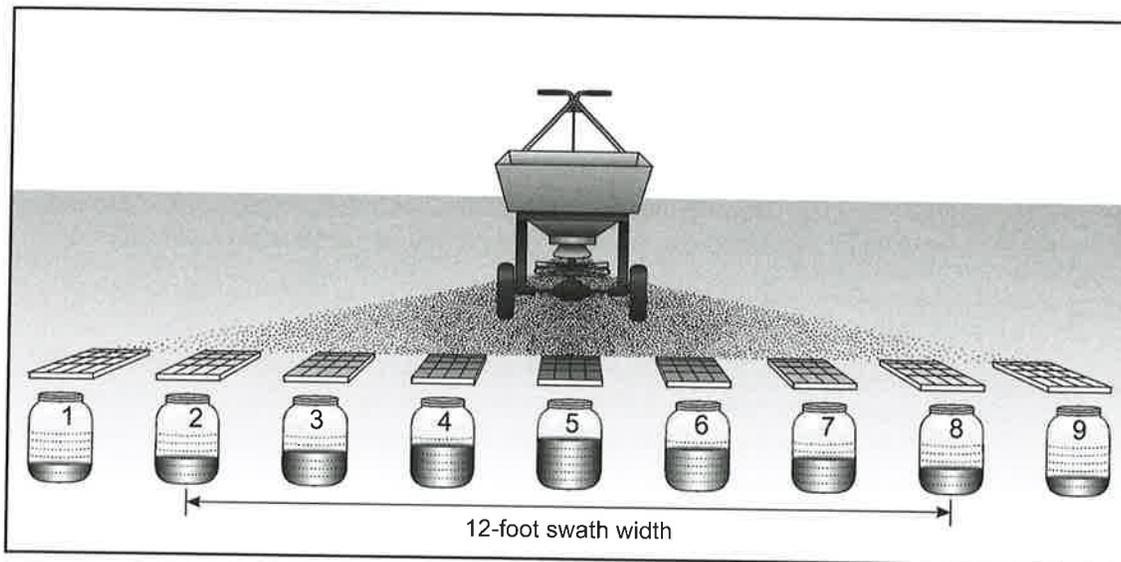

Figure 10-15. Rotary spreader distribution pattern and swath width measurement.
**Step 4**—Find the jars to each side that have half the amount in the center jar. The distance between the boxes represented by these bottles is the effective swath width (Figure 10-15).